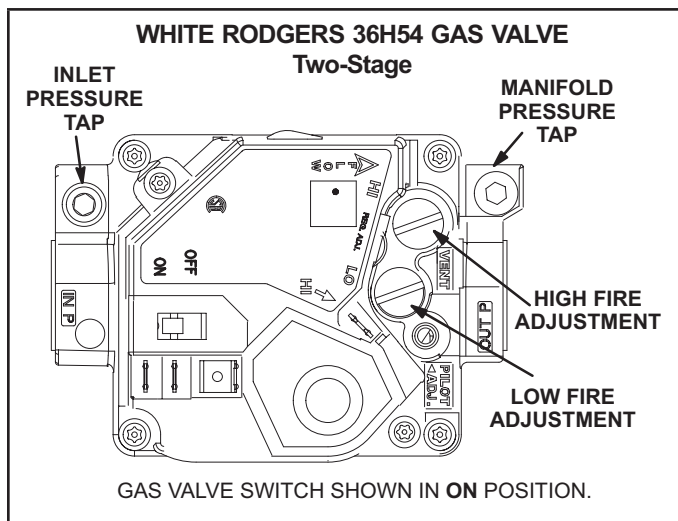
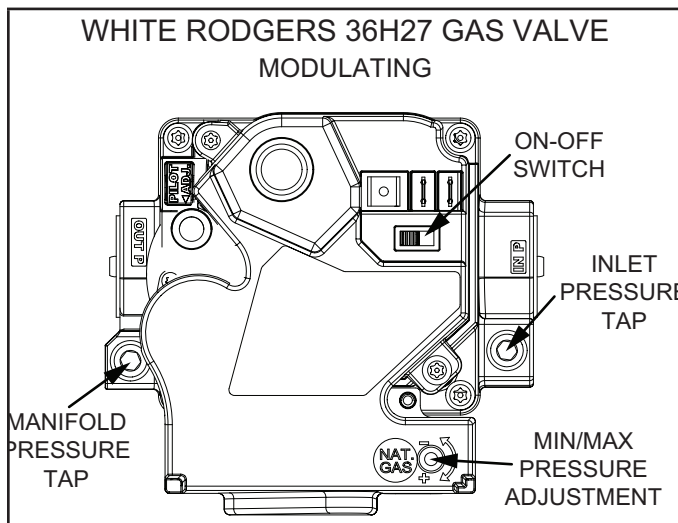

FIGURE 26
FIGURE 27
- 5 - Turn gas valve switch to **OFF**. See FIGURE 26 and FIGURE 27.
- 6 - Wait five (5) minutes to clear out any gas. If you then smell gas, **STOP!** Immediately call your gas supplier from a neighbor's phone. Follow the gas supplier's instructions. If you do not smell gas, go to the next step.
- 7 - Turn gas valve switch to **ON**. See FIGURE 26 and FIGURE 27.
For White Rodgers 36H54 and 36H27 valves (FIGURE 26 and FIGURE 27), supply pressure is accessed by removing 1/8" hex screw. Remove the 1/8" hex screw and install a 1/8" fitting with hose barb. Connect tubing from the barbed fitting and route to measuring device to measure supply pressure.
For White Rodgers 36H54 and 36H27 valves (FIGURE 26 and FIGURE 27), remove supply pressure barbed fitting and reinstall the 1/8" hex screw.
For White Rodgers 36H54 and 36H27 valves (FIGURE 26 and FIGURE 27) manifold pressure, remove the 1/8" hex screw, install 1/8" fitting with hose barb, connect hose from barb to "+" side of measuring device.
- 4 - If necessary, adjust manifold pressure. FIGURE 26 and FIGURE 27 show adjustment screw(s) locations.